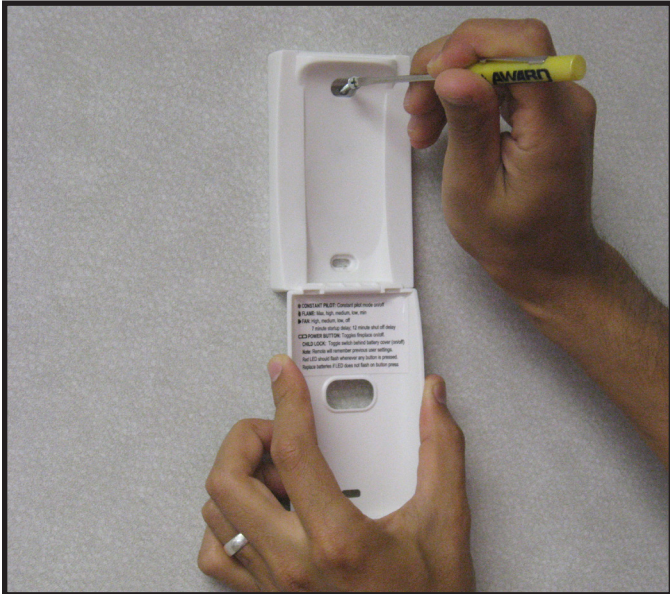

Figure 1. Mounting Remote Control Housing
3. Secure the remote control housing on a flat wall surface using the two screws and wall anchors provided. See Figure 1.